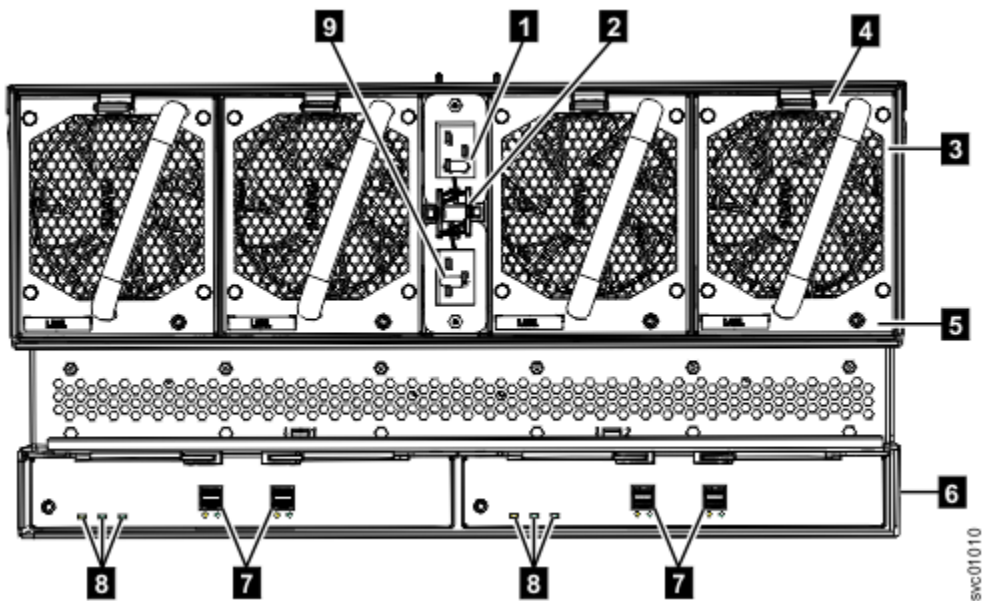
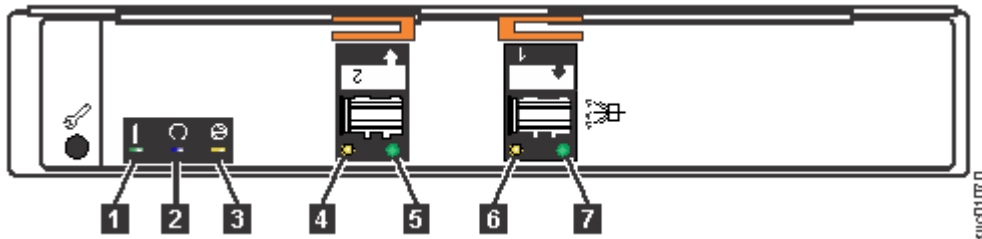

Figure 72. LEDs on the back of the expansion enclosure
Figure 73. LEDs on the back of the expansion canister
Table 31 on page 79 explains the function and status that is indicated by each of the LEDs. The power cords for each PSU are accessible from the rear of the expansion enclosure (1), as shown in Figure 72 on page 82.
Figure 72 on page 82 shows the rear view of a 2072-92F expansion enclosure. LEDs on the rear of the enclosure provide information about each fan module, each expansion canister, and SAS links.
The expansion enclosure has four fans. Each fan has one LED; for example, Figure 72 on page 82 shows the location of the LED (5) for fan number four. When a fan is operating normally, the LED is not lit. If a fault is detected, the amber LED is lit.
As Figure 72 on page 82 also shows, the expansion enclosure contains two expansion canisters. Each expansion canister contains its own set of LEDs, as shown in Figure 73 on page 82. The LEDs provide status information about the expansion canister itself and the SAS connections.